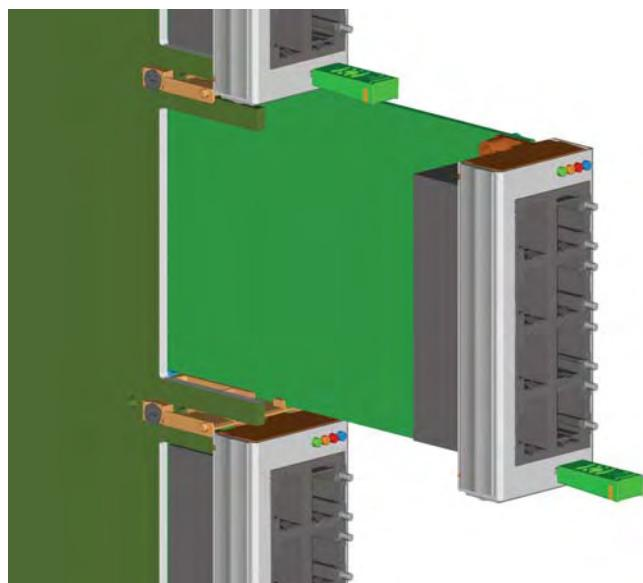

Figure 2
Full-Height Modules have an optional configuration called *Extended Full-Height Modules*. The Extended Full-Height Module is required to accommodate dual-row SFPs and dual-row RJ-45s. Extended Full-Height Modules cannot be stacked. See Figure 2.
- Conventional Carrier options – notched bay: In order to support Extended Full-Height Modules on a Conventional Carrier, it is necessary to notch out a portion of the carrier board for the target AdvancedMC bay (approximately 70mm of the AdvancedMC bay, starting from the faceplate). This creates the additional height needed for these modules. See Figure 2.